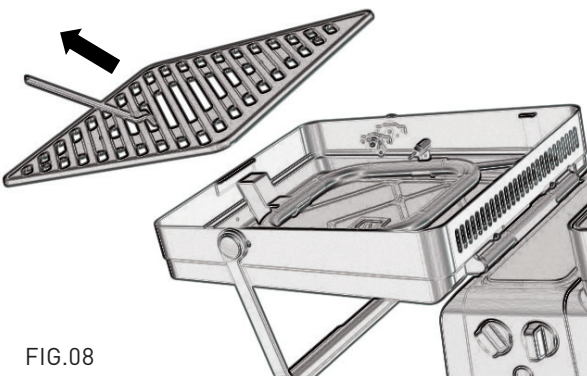

FIG. 08
3. Pull outwards to remove grate from the grill. (Fig. 08)